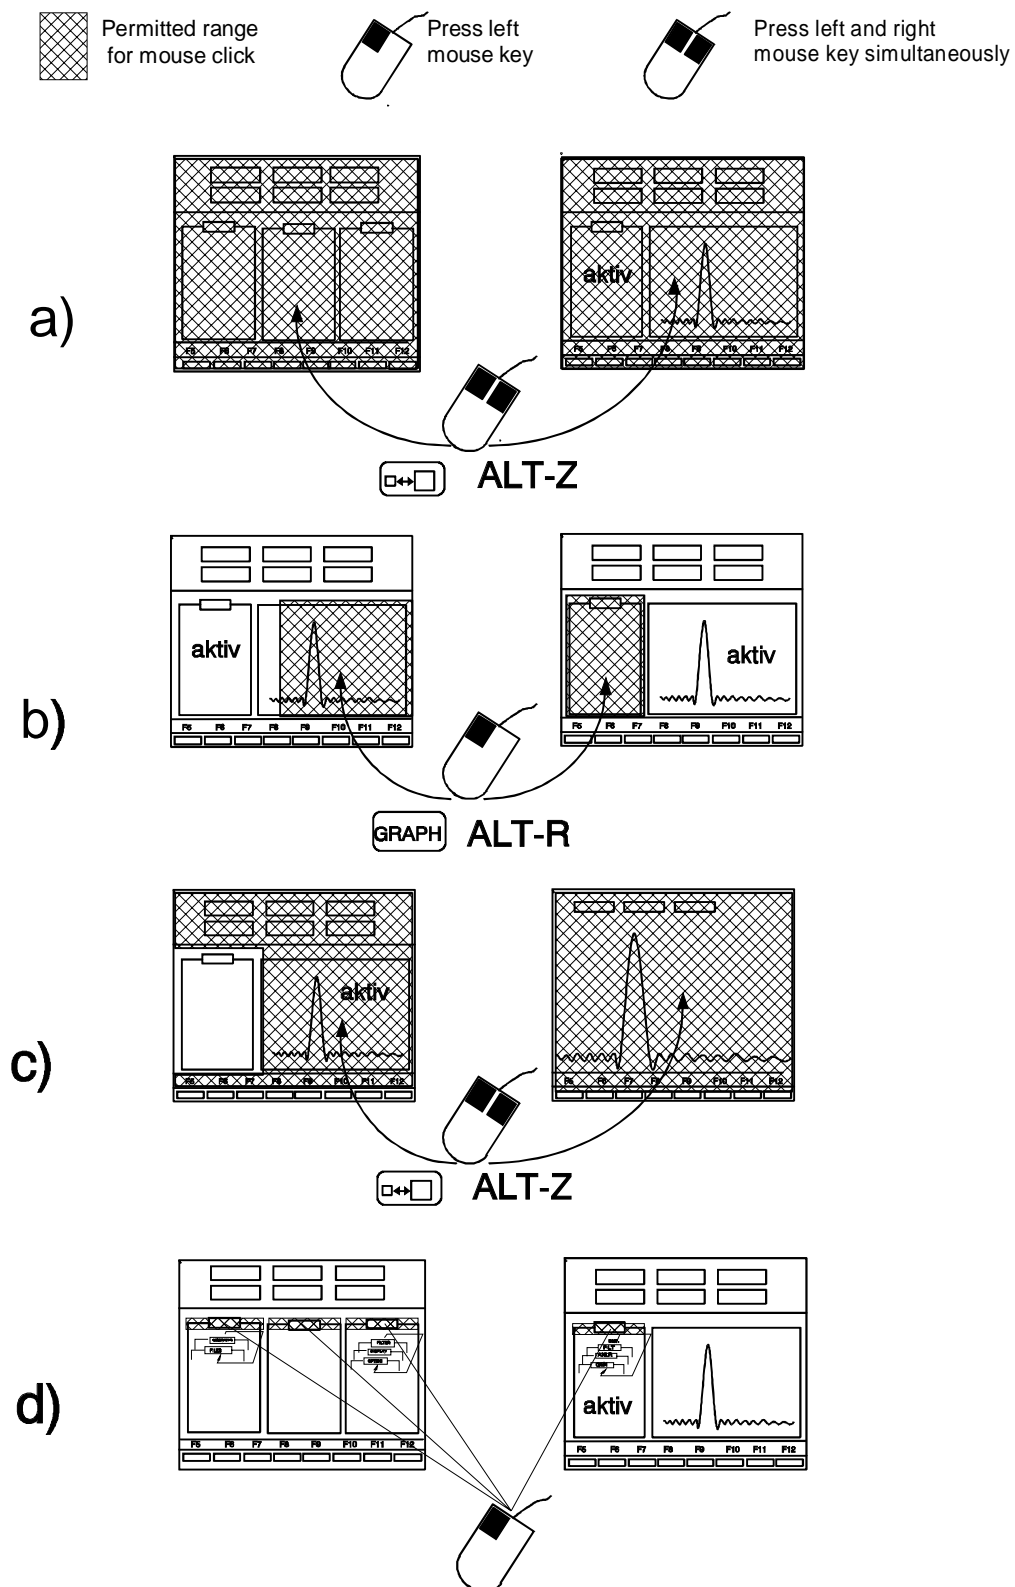

Fig. 2-6
3-panel display, part display and full display, with the left and right mouse key being pressed simultaneously in the shaded area (cf. Fig. 2-6, a and c). The mouse click to change the display modes must be at a position in the panel which is not assigned by an operable field.
- change between panel and graphics in the part display, with the left mouse key being pressed in the shaded area (cf. Fig. 2-6 b).
- change the panel by clicking the panel heading using the left mouse key (cf. Fig. 2-6 d).